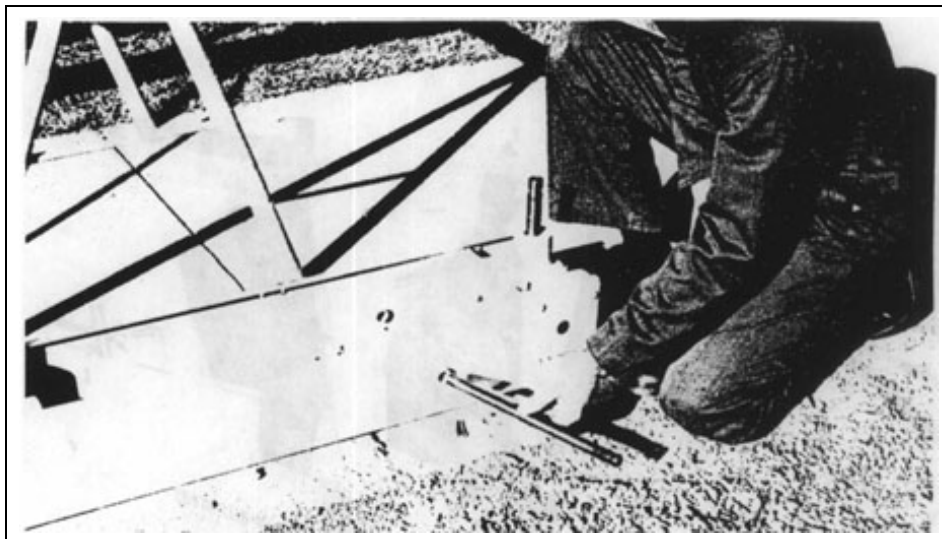

Figure 4I
13. Place the 3/4" x 14" axle shaft through the trolley body axle bushings. Two (2) axles are used on a 4 auger trolley and three (3) axles are used on all 36' 4 auger and all 6 auger trolleys. After the axles have been installed, place one 3/4" SAE washer, the poly-wheel and another 3/4" SAE washer on each side. Secure with a 3/16" x 1-1/4" cotter pin. (See Figure 4I and Page 44.)